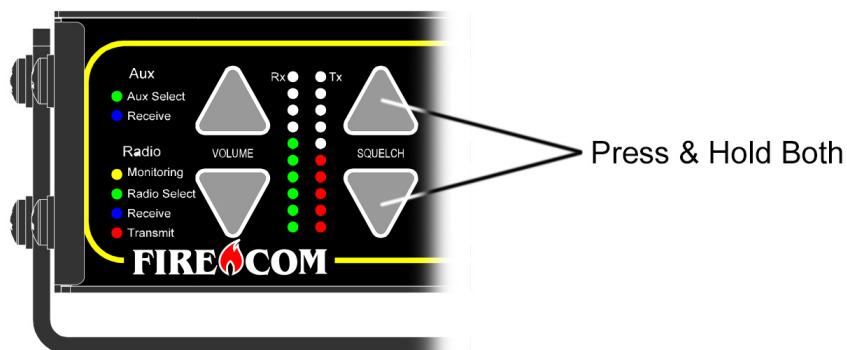

Figure 19
1. To enter **Headset Squelch Adjust Mode**, simultaneously press and hold Squelch up and Squelch down buttons for 5 seconds. (FIGURE 19)